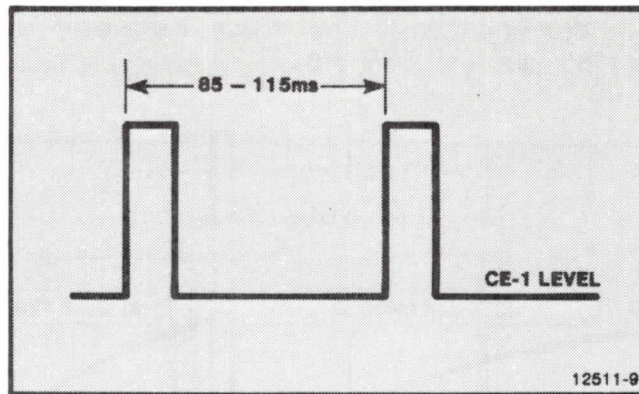

Figure 10-18. CE-1 Waveform.
23. Observe the waveform in Figure 10-18 and make sure that the time from the beginning of the first pulse to the beginning of the second pulse is from 85 to 115 ms.